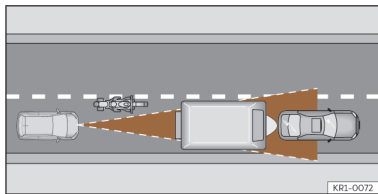

Fig. 122 Motorcyclist ahead out of range of the radar sensor.
- Vehicles that are not aligned while driving or that are outside the sensor's detection area, such as motorcycles >>> **Fig. 122.**